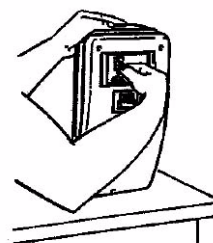

FIGURE 26
3. Carefully remove the light bulb while holding the merchandising cover with the top open, (see Figure 26).